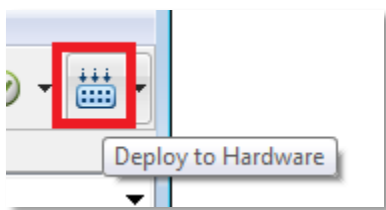

Figure 12: Deploy to Hardware button
6. On the **BlinkLED1** model window, **[Deploy]** the model to the Raspberry Pi (**Figure 12**). Note that:
9. **[Deploy]** the model to the Raspberry Pi (**Figure 12**).